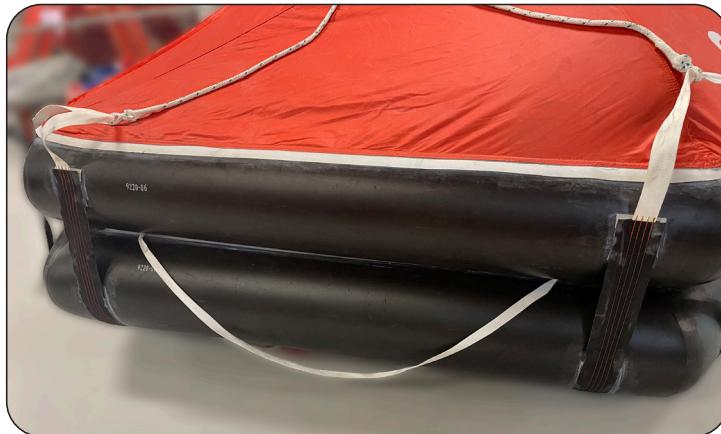

Figure 3
- Both webbing and fabric materials have been updated to support improved performance (Refer to **Figure 3**).